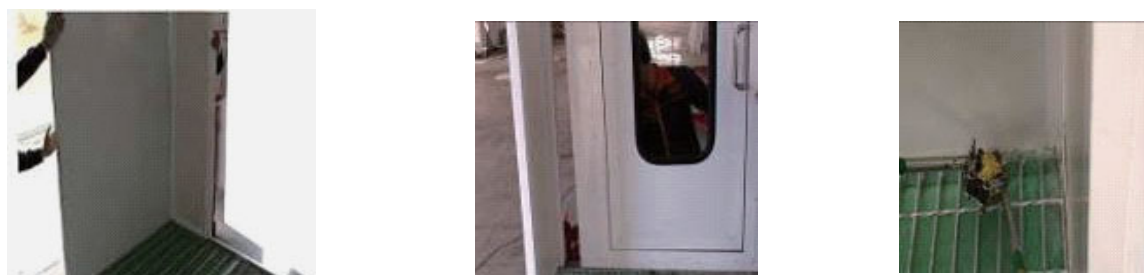

Fig. 2.20
- 4) Installate one wall panel at each side (one side with the personal door),connect them with the nail(show in Fig.2.20)